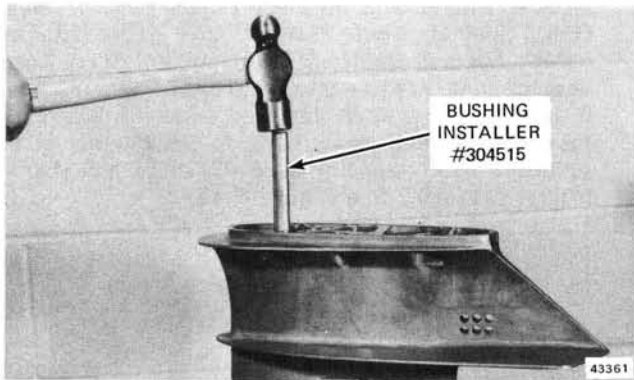

Figure 6-46. Installing Shift Rod Bushing, O-Ring and Washer
5. If removed, install new washer, "O" ring, and shift rod bushing using bushing installer (OMC Special Tool #304515). See Figure 6-46.